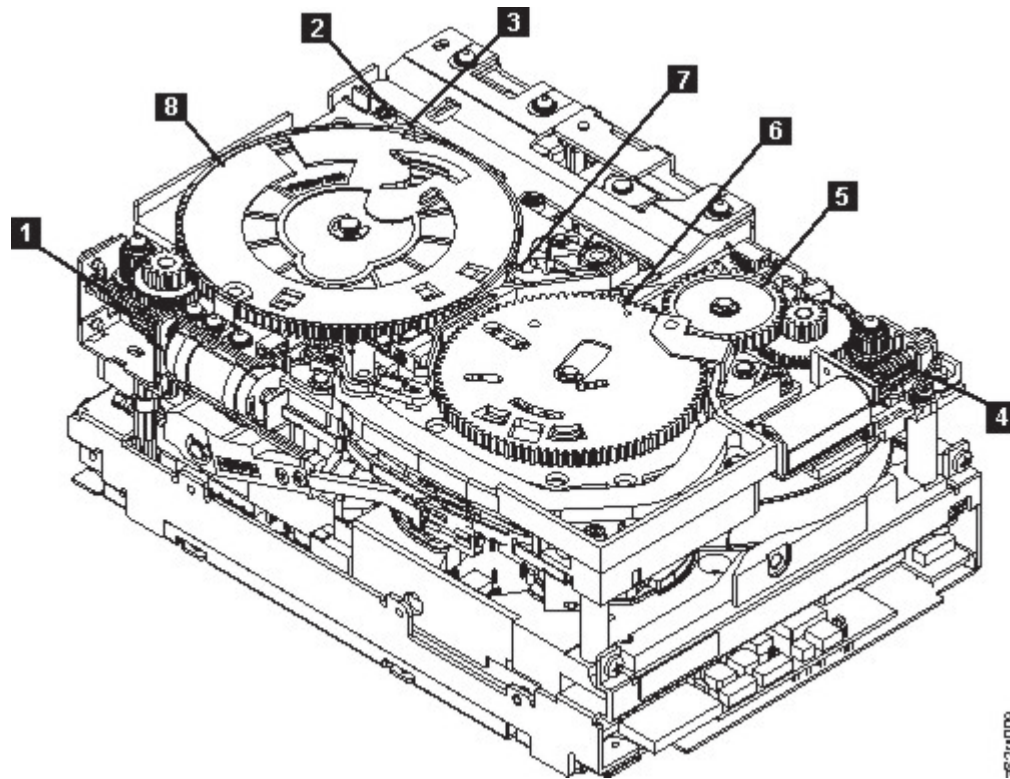
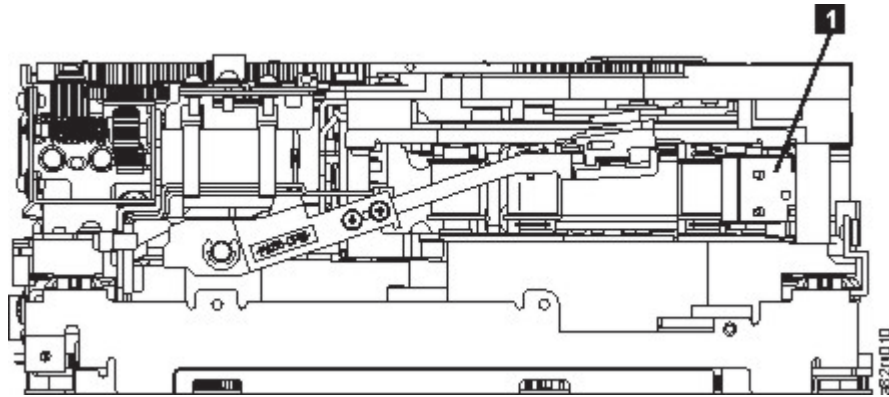

Figure 127. Drive with cover removed to reveal gear train.
Figure 128. Leader Block Assembly (LBA)
5. Locate the threader motor worm gear (4 in Figure 127 on page 258) on the rear of the drive. Use your finger to rotate the threader motor worm gear and slowly rotate the threader mechanism gear (6 in Figure 127 on page 258) clockwise.
This action rotates the threader motor worm gear (4 in Figure 127 on page 258) clockwise, drawing the LBA into the cartridge.
6. As the tape leader block assembly (LBA) is secured in the cartridge, you hear the LBA retention spring clips click into place. If you do not hear the click, continue rolling until the threader motor worm gear (**4** in Figure 127 on page 258) stops. The LBA is in the correct position.
- Loader mechanism gear (**6** in Figure 127 on page 258) nearest the front of the drive that actuates the cartridge loader mechanism.
- Position of the rotate stub (**3** in Figure 127 on page 258).
- Front loader motor worm gear (**1** in Figure 127 on page 258). Rotating this gear allows the loader mechanism gear (**8** in Figure 127 on page 258) to turn.
8. Rotate the loader motor worm gear (**1** in Figure 127 on page 258) to turn the loader mechanism gear (**6** in Figure 127 on page 258) counterclockwise. Continue turning until the rotator stub (**3** in Figure 127 on page 258) loses contact with the lever (**7** in Figure 127 on page 258). This action releases the LBA leader pin.
9. Rotate the threader motor worm gear (**4** in Figure 127 on page 258) to turn the threader mechanism gear (**6** in Figure 127 on page 258) counterclockwise. This action moves the LBA out of the cartridge and past the read/write head. Stop this rotation when the LBA is near the tape guide roller nearest the rear of the drive that is shown as **1** Figure 128 on page 259.
10. Continue rotating the loader motor worm gear (1 in Figure 127 on page 258) until the rotator stub (3 in Figure 127 on page 258) is positioned as shown. Notice that the rotator stub (3 in Figure 127 on page 258) is nearly aligned with the cartridge loader tray guide bearing (2 in Figure 127 on page 258).